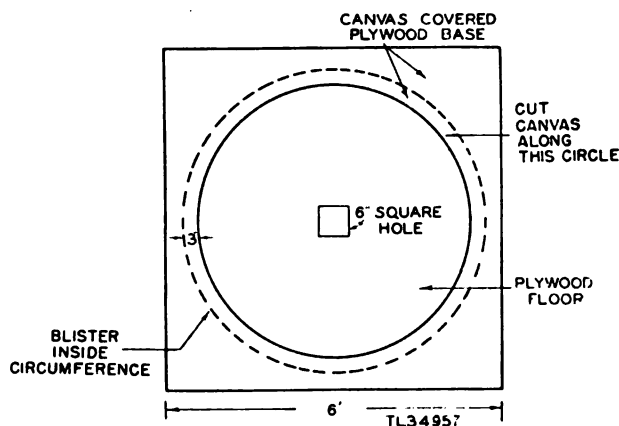

Figure 14. Blister platform.
(1) Fasten a $\frac{3}{4}$ - or 1-inch plywood base or flooring to the level antenna platform. It should be 6 feet square to cover the area required for the blister.
(2) Fasten a piece of canvas to the plywood base (figure 14). A circle having a radius 3 inches less than that of the inside of the antenna blister should be cut in the canvas.
(3) Remove the canvas circle and cement the rest of the canvas to the plywood base.
(4) Cut a 6-inch square hole in the center of the platform (fig. 14) to accommodate the short section of coaxial line projecting downward from the base of the antenna system.